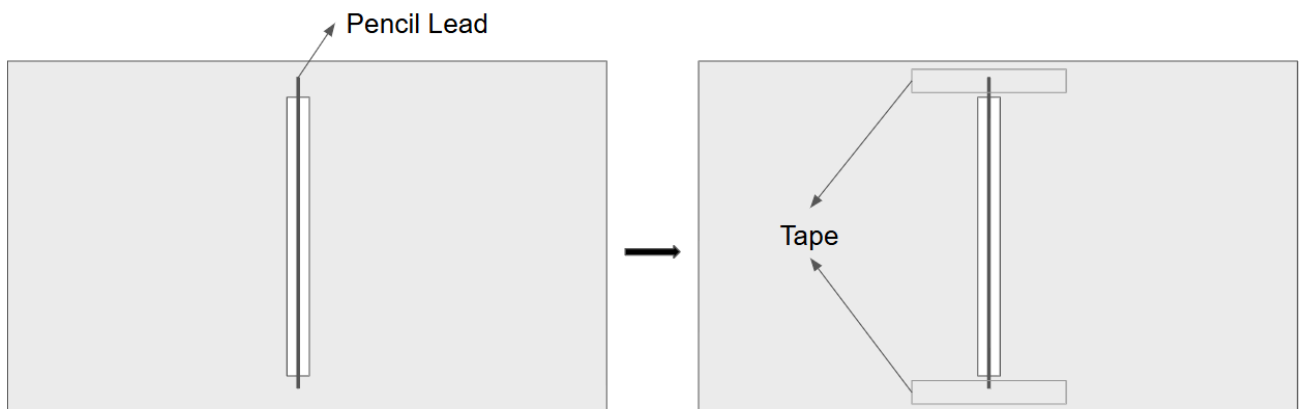

Figure 6.3. Experimental setup for double slit
2. Secure the pencil lead on both ends using transparent tape, leaving space between two lead strands as in Figure 6.3 .